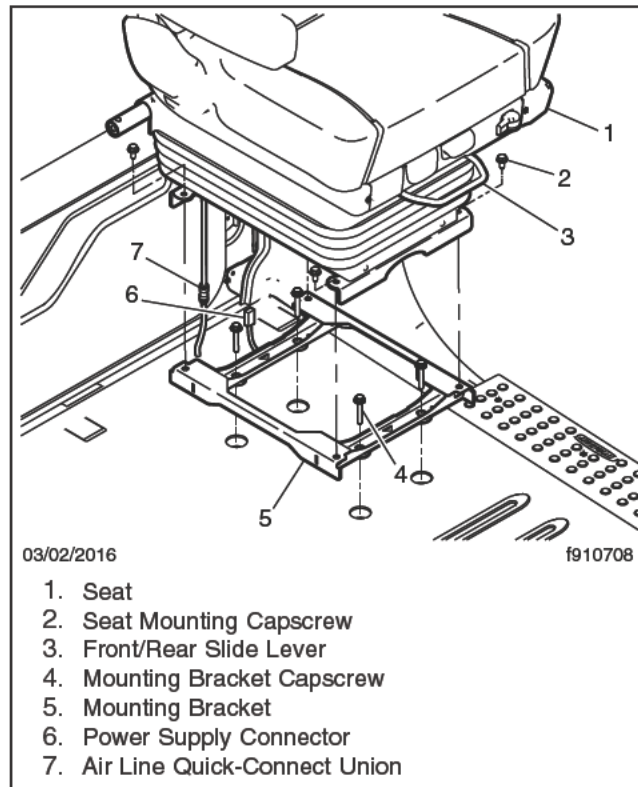

Fig. 1, Seat Installation
6. Disconnect the power supply from the seat, if applicable. See Fig. 1
Do not use the front/rear slide lever, shown as item 3 in Fig. 1, as a lift handle when removing or installing the seat. Doing so will damage the lever and prevent operation of the front/rear slide.